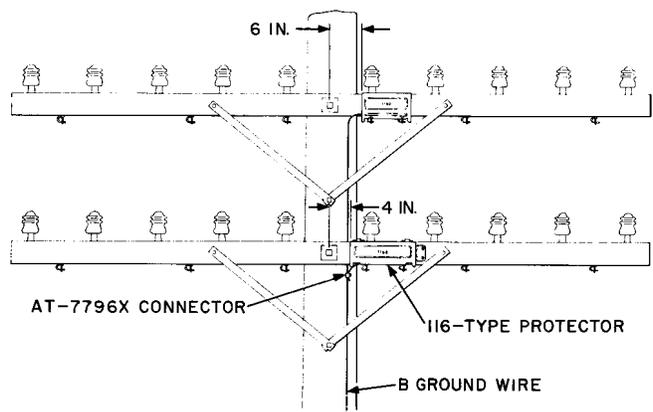

Fig. 9—Mounting 116-Type Protector on Crossarm Terminal
3.05 Locate 116-type protectors on the crossarm when the protector is specified along the open wire route for additional lightning protection. See Fig. 9.